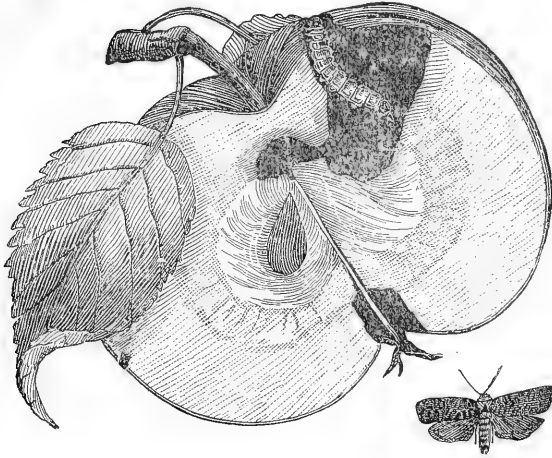

Fig. 147.—Section of a wormy apple; codling moth; larva.
- e. Larvæ of the second generation enter the fruit more from the side than the calyx end, and by reason of their greatly increased numbers cause the larger part of the total injury. Fig. 147.